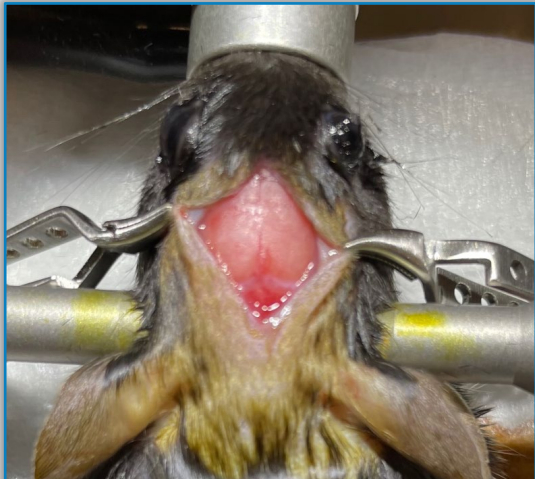

Figure 4 | Step 7
Step 7 | Use a cotton swab to remove the membrane layer on top of the skull. Start at the midline and push the membrane laterally towards the edge of the skull. *Note the lack of reflection on the skull after the membrane was removed in Figure 4 vs. Figure 3 when it was intact.*